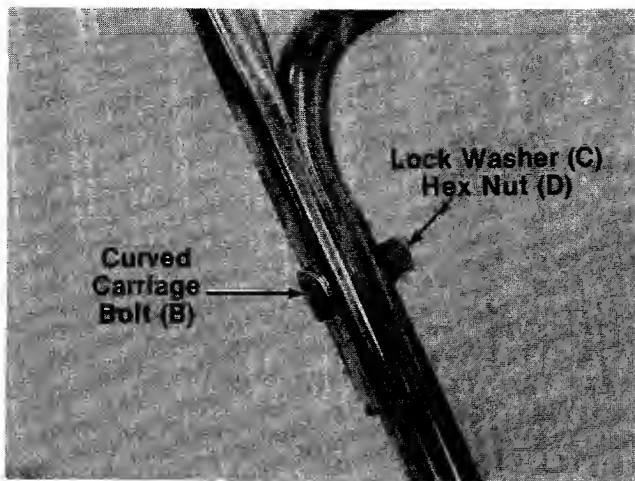

FIGURE 3.
4. Place upper handle in position over lower handle. Control housing should be on the **right** side of the handle. Secure upper handle with two curved carriage bolts (B), lock washers (C) and hex nuts (D). See figure 3.